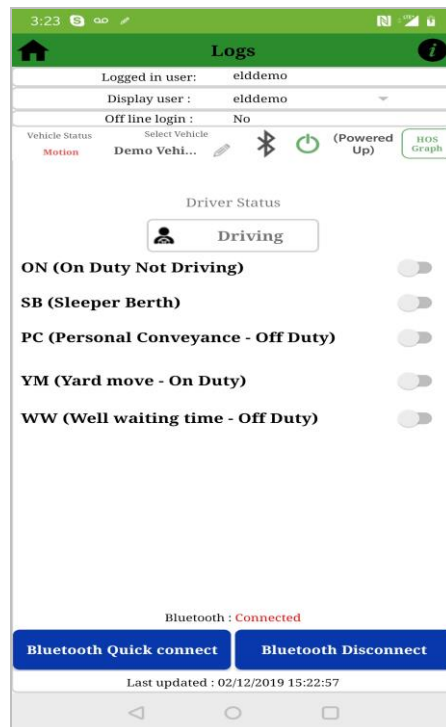

Figure 10.1 – Logs screen with timestamp
- When Bluetooth is connected there will be a timestamp below Bluetooth Quick Connect (figure 10.1) that will change every few seconds to indicate healthy connection with Matrack ELD device.